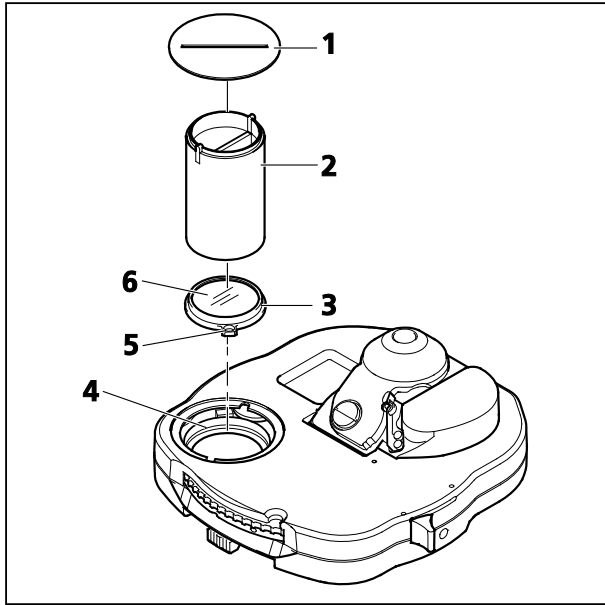

Fig. 27 Replacing the DIC prism
- Remove DIC prism (Fig. 27/6) from the tool and screw on the new, desired DIC prism.
- Mount the DIC prism in reverse order, paying particular attention to the correct orientation of the DIC prism: tongue Fig. 27/5 must be in the recess of the mount in the condenser. Ensure that the labeling on the knurled ring of the turret disk is correct.